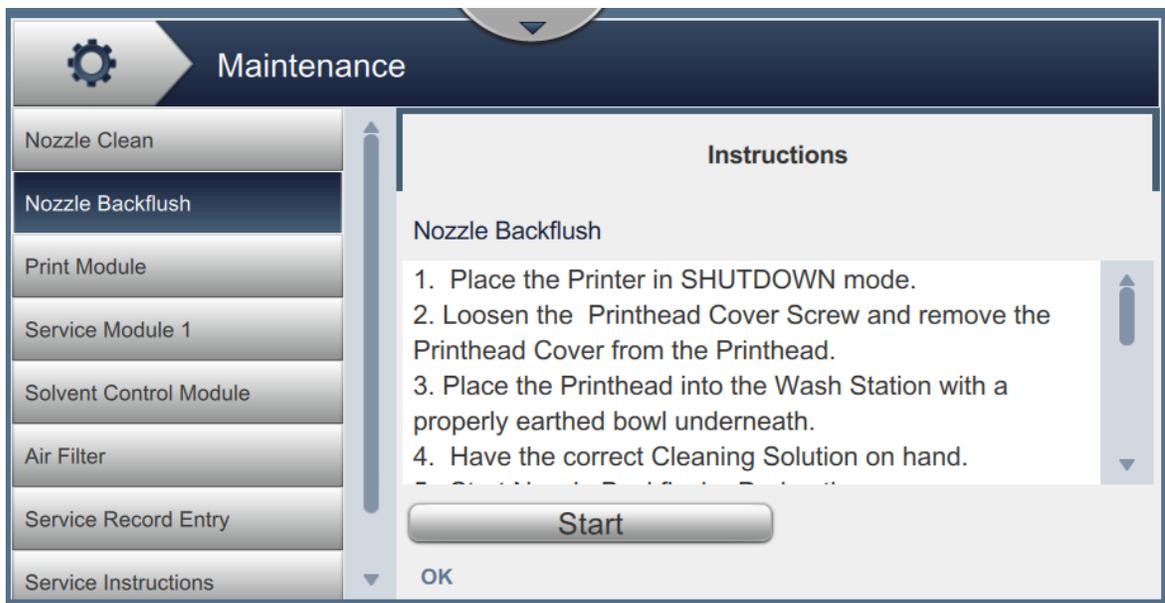

Figure 9-7: Nozzle Backflush
6. Touch the Start button (Figure 9-7) to start the Nozzle Backflush. During the sequence, spray the cleaning solution into the charge electrode slot in short bursts.